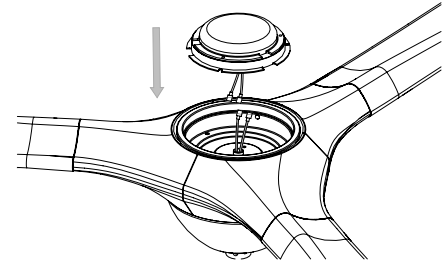

FIGURE 18
1. Securely attach the LED wires to the wires coming from the motor. Connect the white wire connector from the luminaire module to the white wire of the fan. Follow the same procedure with the black wire connectors. (Fig. 18).